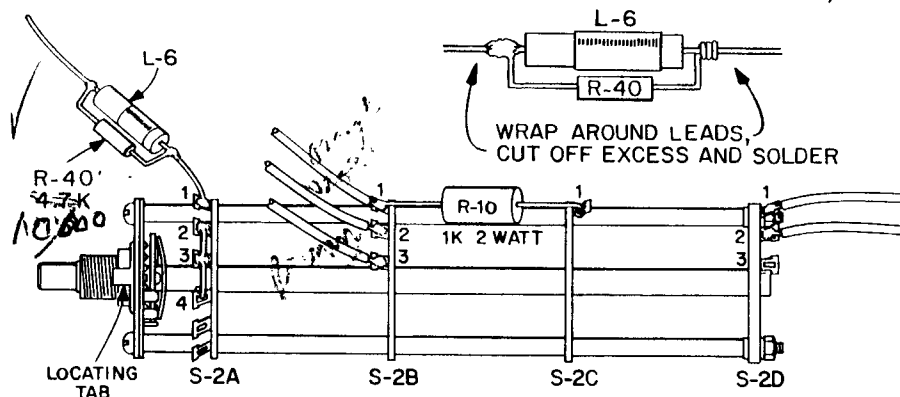

FIGURE 12. PREWIRING S-2
SEE FIGURE 12.
- ✓ S-2, the 4-wafer switch. Position the switch with the locating tab as shown in Figure 12.
- ✓ L-6, coil (marked with a violet dot) and R-40, 4.7K resistor (yellow, violet, red). Wrap the leads of R-40 around the leads of L-6 as close to the coil form as possible. Clip the excess and solder the leads of R-40 to those of L-6 as shown in Figure 12.
- ☒ L-7, coil (marked with a gray dot) and R-41, 100K resistor (yellow, black, orange). *100K 8n* Solder R-41 across L-7 in the same manner R-40 was mounted to L-6. (See Figure 12). Solder one lead from L-7 to terminal 4 of S-2A (2 wires). Connect the other lead to terminal 1 of TS-9.